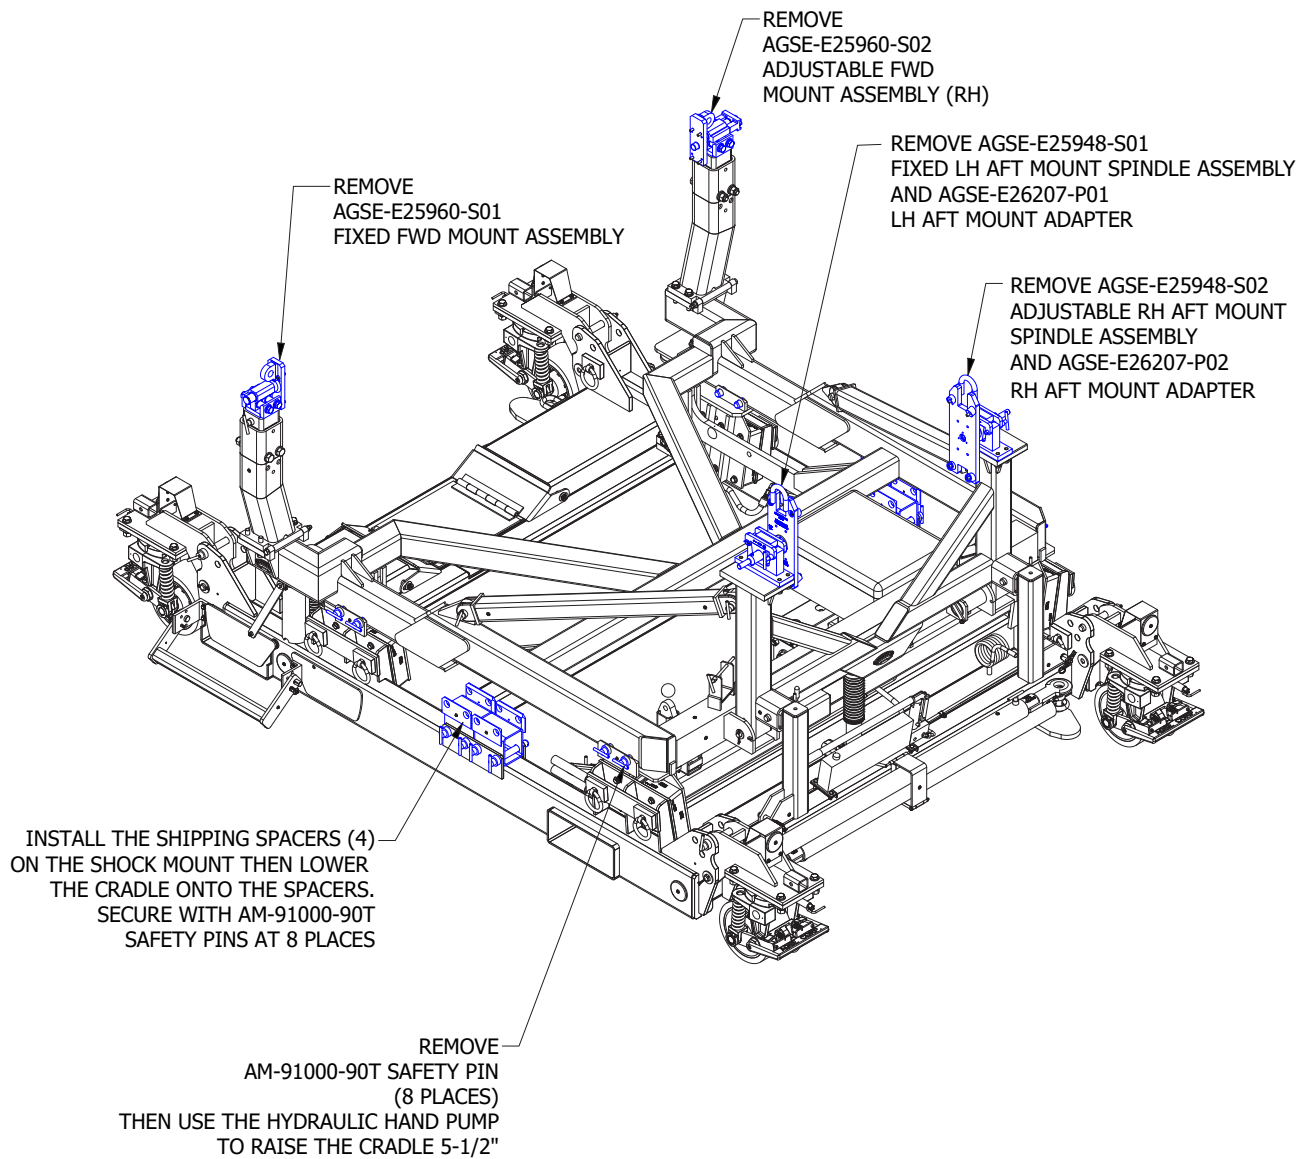

Figure 5.4-1
- 4) Remove eight (8) (4 on each side) AM-91000-90T cradle safety pins to free the cradle from the base.
- 6) Remove the shipping spacers from their storage position and install on the shock mount. Secure with eight (8) AM-91000-90T safety pin.
- 7) Use the hydraulic hand pump to lower the cradle onto the spacers. Secure the cradle with the safety pins removed in step 3. (Illustration Figure 5.4-1)